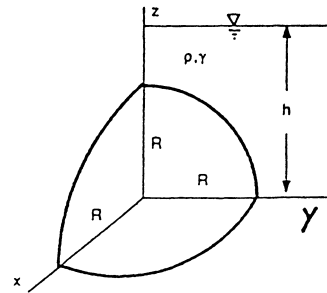

Fig. P2.93
**2.93** In Fig. P2.93 a one-quadrant spherical shell of radius  $R$  is submerged in liquid of specific weight  $\gamma$  and depth  $h > R$ . Derive an analytic expression for the hydrodynamic force  $F$  on the shell and its line of action.